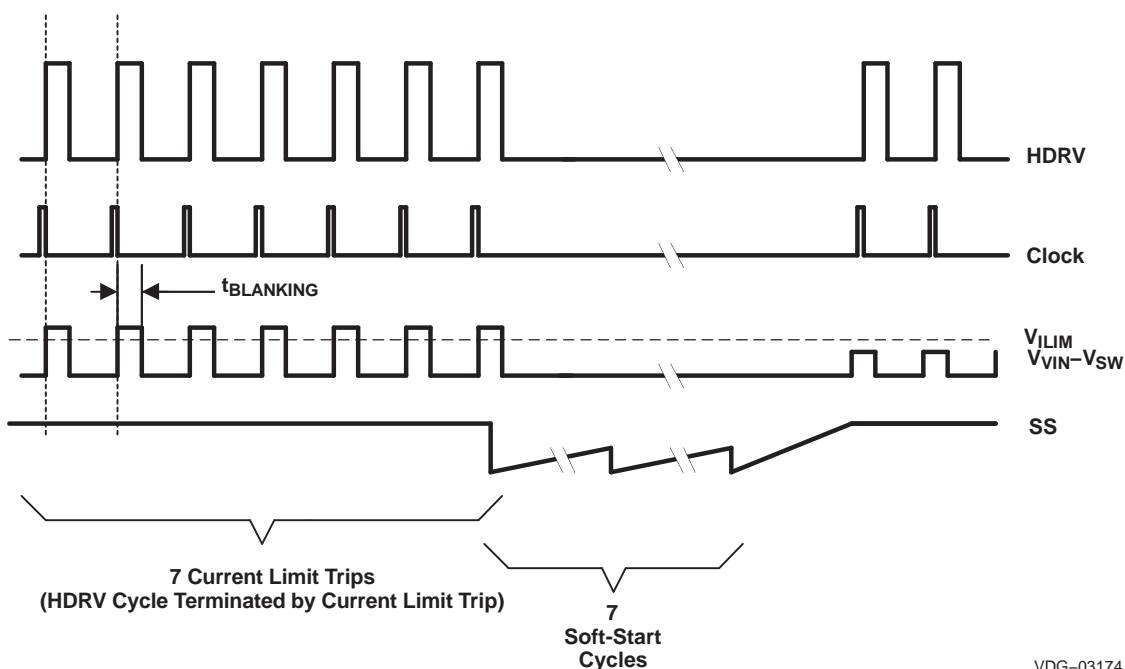

Figure 28. Typical Fault Protection Waveforms
The second tier protection incorporates a fault counter. The fault counter is incremented on each cycle with an overcurrent pulse and decremented on a clock cycle without an overcurrent pulse. When the counter reaches seven (7) a fault condition is declared by the controller. When this happens, the output drivers turn both MOSFETs off. Seven soft-start cycles are initiated (without activity on the HDRV and LDRV outputs) and the PWM is disabled during this period. The counter is decremented on each soft-start cycle. When the counter is decremented to zero the PWM is re-enabled and the controller attempts to restart. If the fault has been removed the output starts up normally. If the output fault is still present the counter counts seven overcurrent pulses and re-enters the second tier fault mode. Refer to Figure 28 for typical fault protection waveforms.